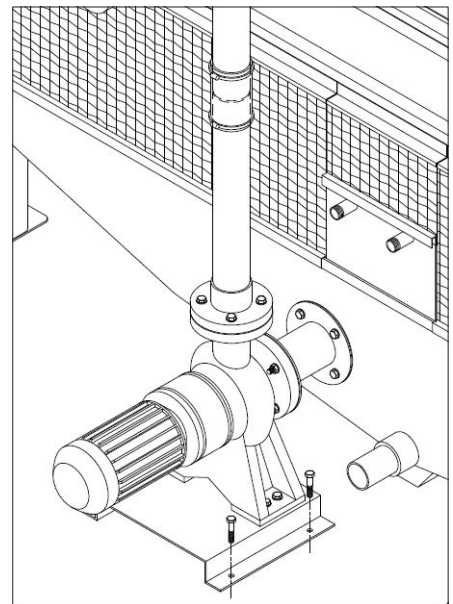

Figure 5b. Joining the Riser Pipe
5. Once the casing has been installed, the ends of the upper and lower riser pipe sections should now be close together. Use the rubber sleeve and hose clamps provided to join the two riser sections (see Fig. 5b).